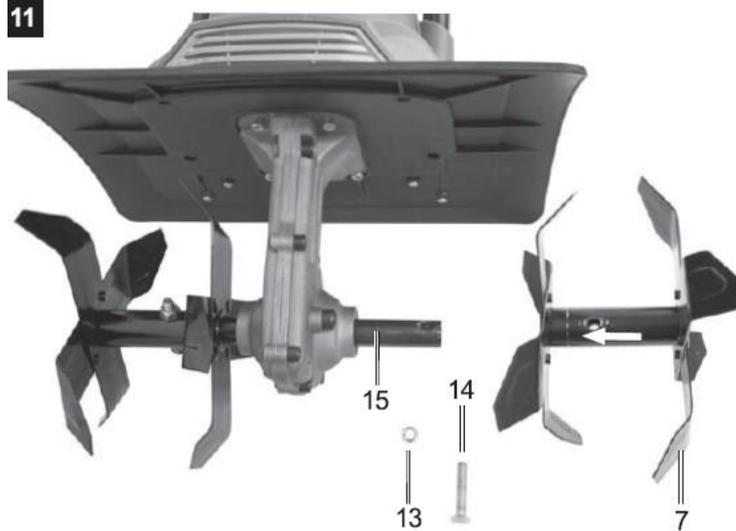

Fig. 11
4. Install the cutter roller (7) on the drive shaft (15) of the machine. The cutter roller (7) can be installed on the left or right side. Make sure that the holes of the cutter roller (7) and the drive shaft (15) are aligned. Then, thread the M8 screw (14) through and secure it with the M8 nut (13). Secure the nut M8 (13) and tighten it by hand (see Fig. 11).